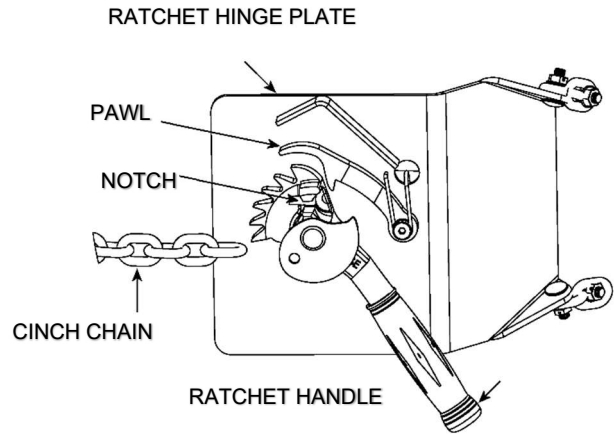

Figure 3.2
2. Using the “LIFT” control as described in “Machine Description - Controls” position the drum holder assembly with the back band at the middle of the drum. (Figure 3.2). With the ratchet plate swung open and the cinch chain hanging from the chain hook, push the unit until the back band rests firmly against the drum. Some adjustment to the tilt angle of the saddle may be necessary to ensure band fits flush on the drum.
3. **Attaching the drum:** Drape the chain across the front of the drum and engage a link into the notch in the ratchet (Figure 3.2). Turn the ratchet clockwise to tighten the chain. If the ratchet turns until the pawl is beyond the last ratchet tooth, turn the ratchet back and slide the next link into the ratchet notch and try tightening again. The chain must be held tightly against the drum with the pawl engaged securely in the ratchet teeth.